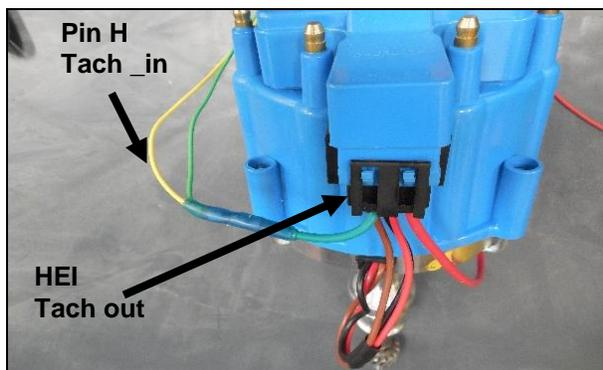

Figure 18 – GM HEI Style distributor
- GM style HEI Distributor – Tach output connection (Fig. 18)